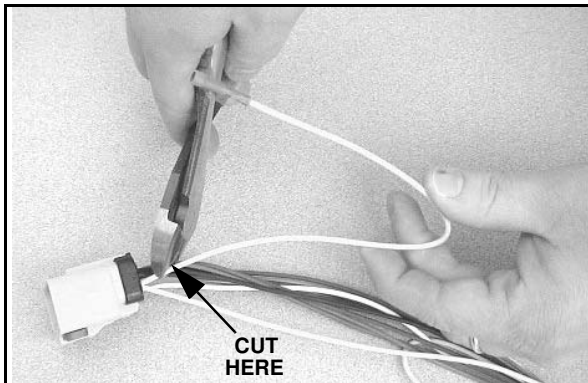

Figure 1
3. Remove the loose yellow wire from adapter by cutting wire just behind the female green plug (See Figure 1).